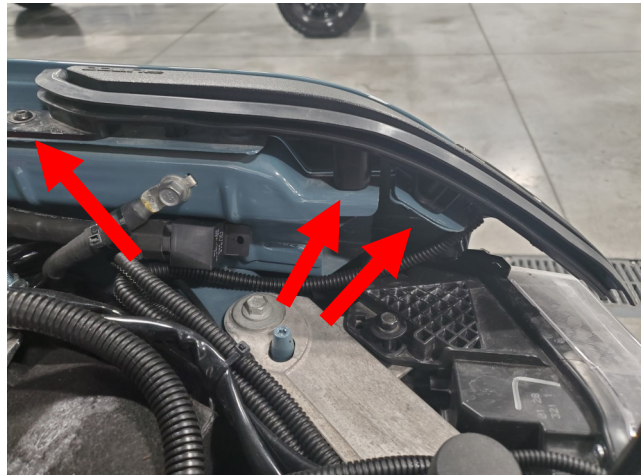

Figure 12.
**12.** Insert the Putco LED DRL limb riser and attach the three M6 bolts. Repeat on the right limb riser. See figure 12 for more detail.